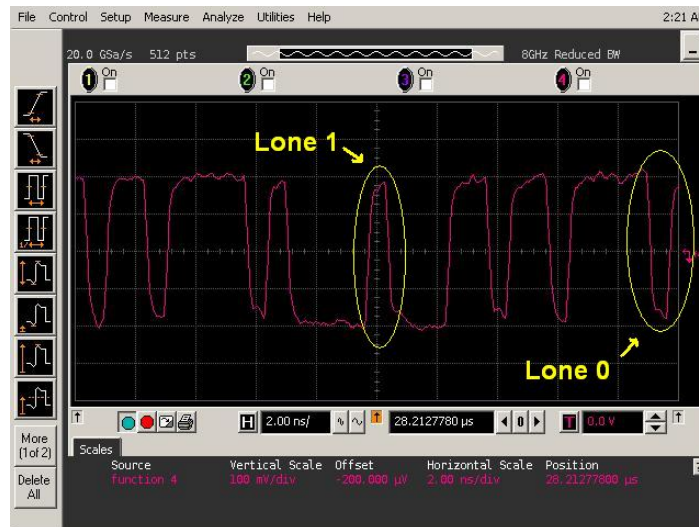

Figure B-2: Isolated Lone 1 and Lone 0 Bits
- Set the scope’s **Horizontal** setting to **2ns/div**. Then, using the **Horizontal Delay knob** on the front panel, scroll through the waveform until you see the **Lone 1 pattern**, shown below. (Note you may have to scroll for a while until you see it. It is a 00001000 pattern followed by 110 110. Look for the lone “spike” followed by two “fangs”.) When you have it isolated on the screen, it should look like Figure B-2, below.